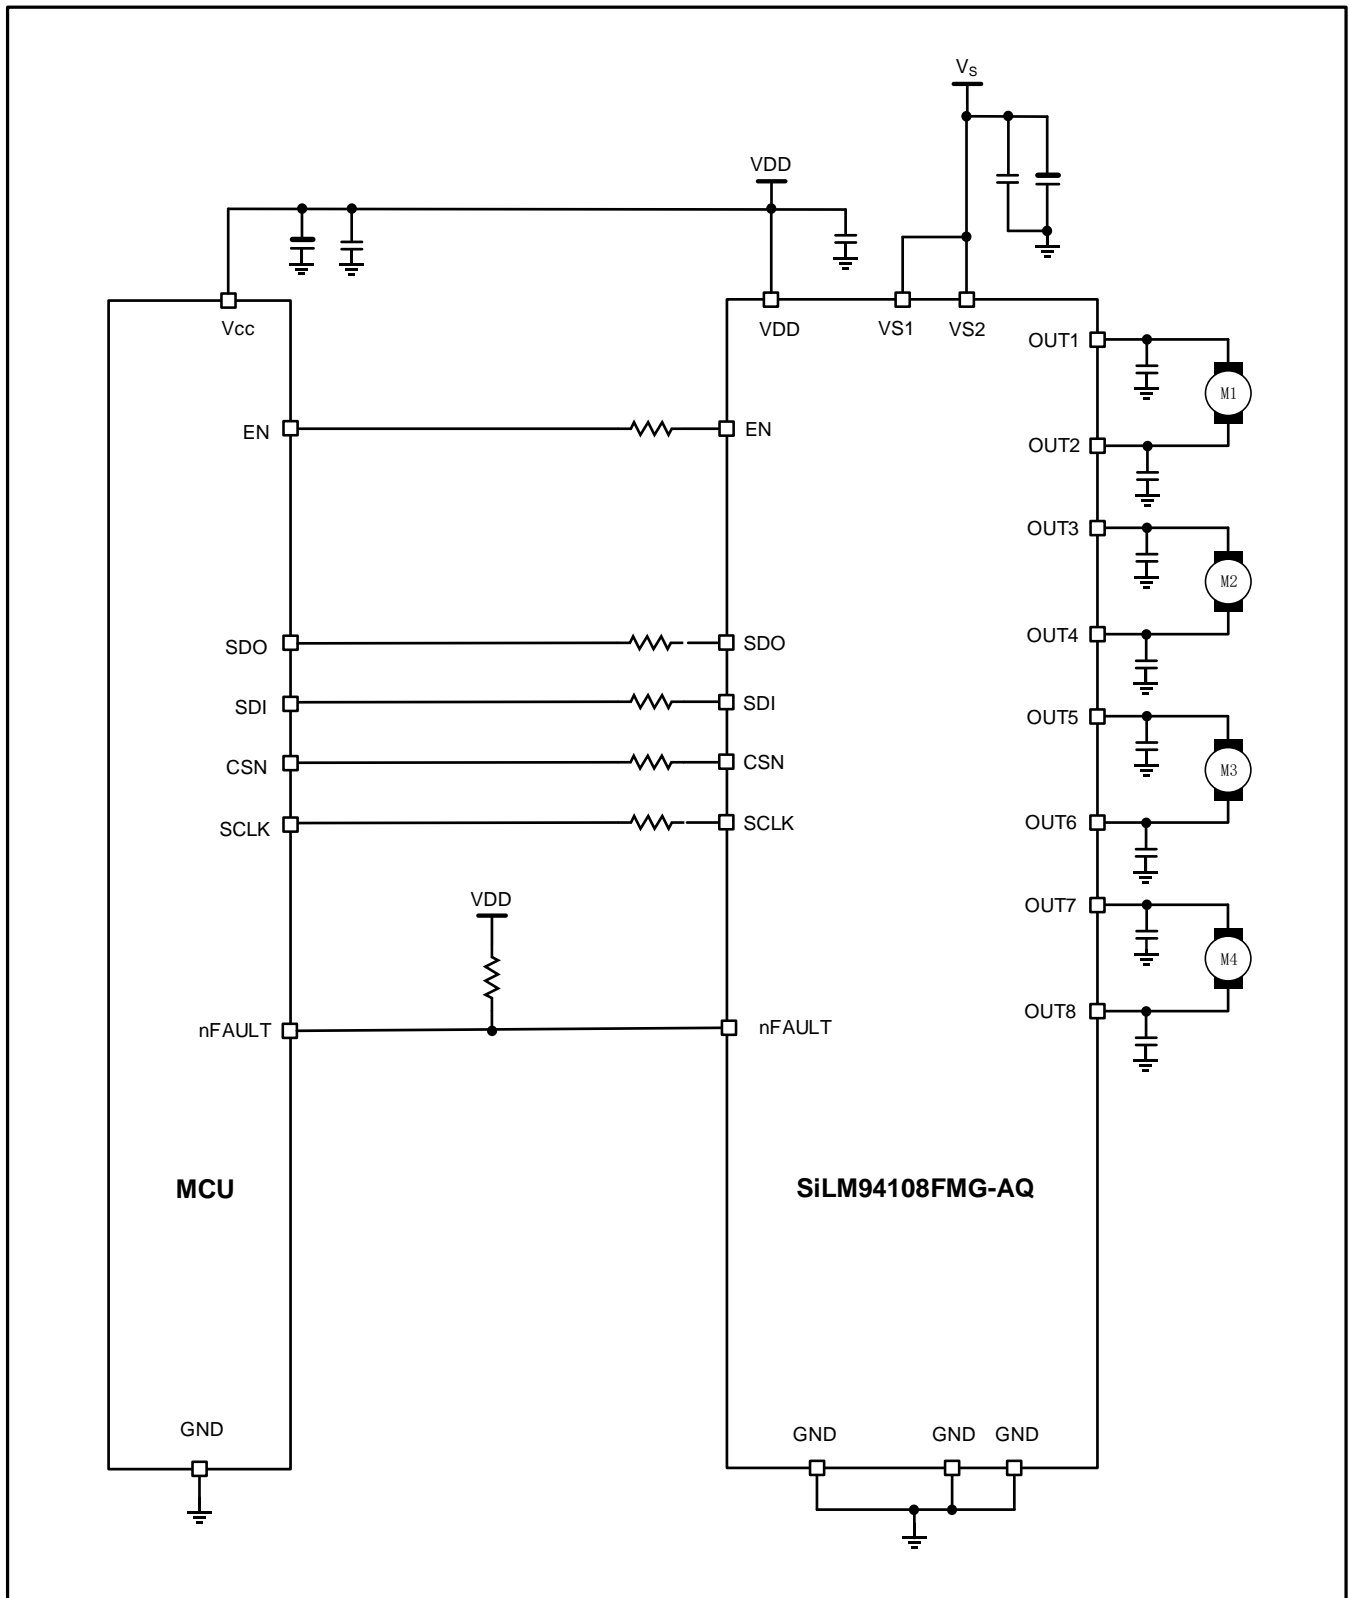
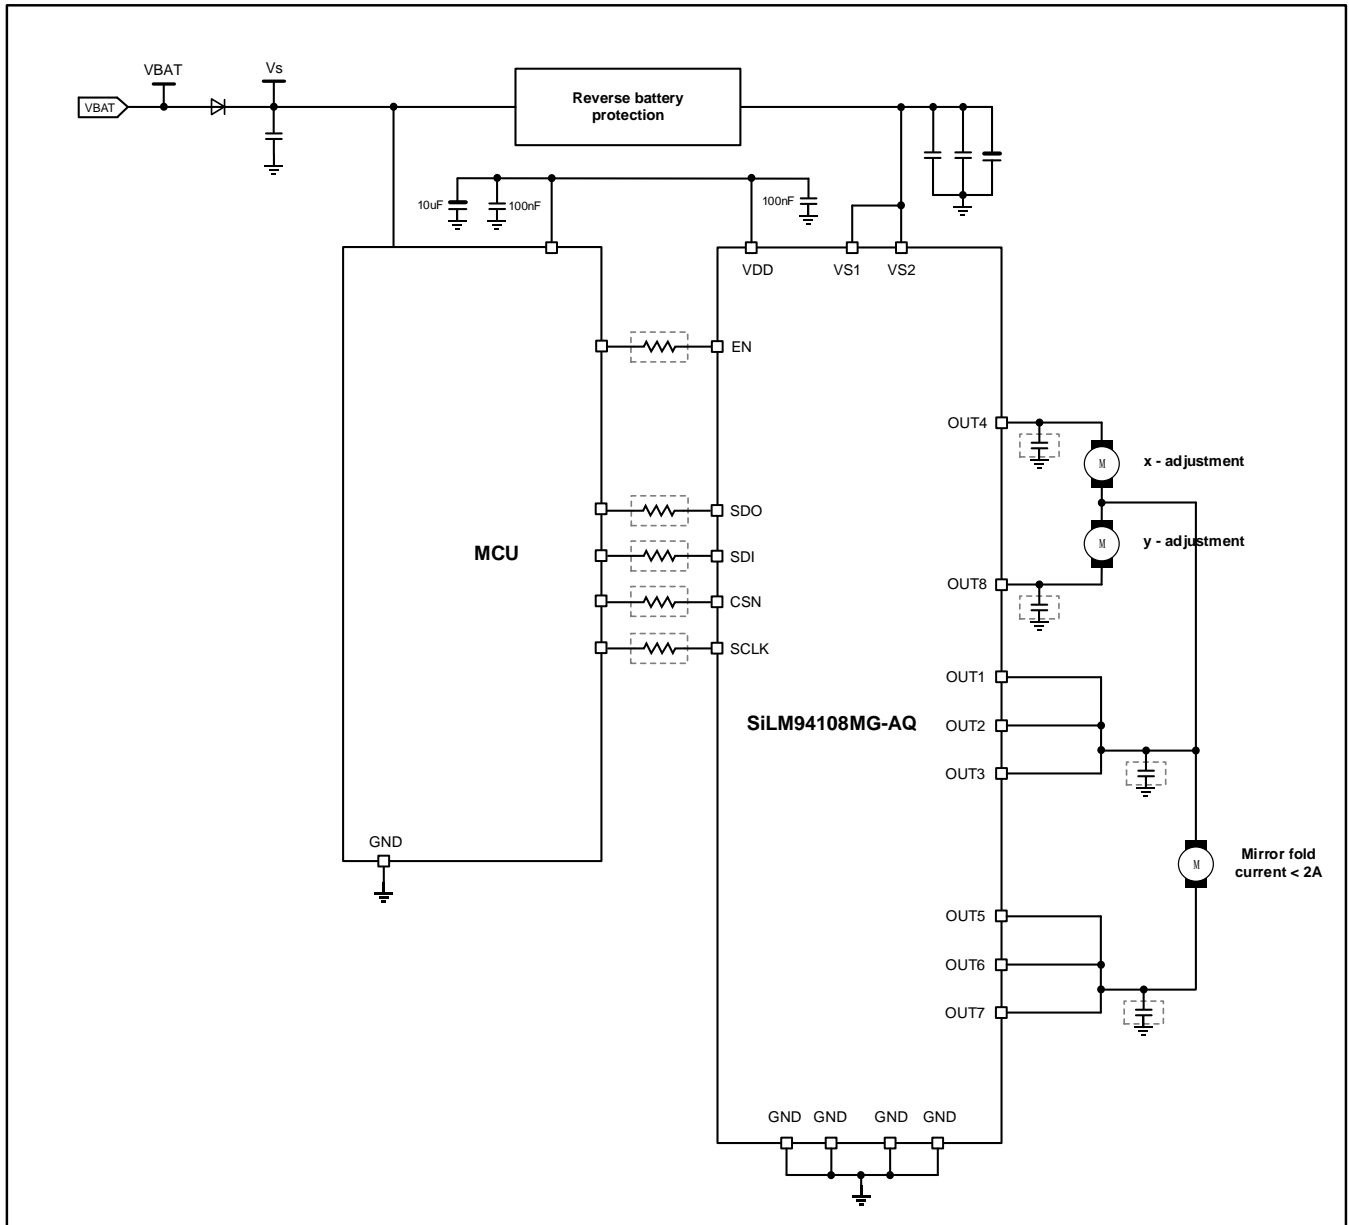

Figure 25. Application example for DC-motor loads(SiLM94108FMG-AQ)
Figure 26. Application example for side mirror control(SiLM94108MG-AQ)
- One 16-bit SPI command consists of two bytes (see Figure 25 and Figure 26), i.e.